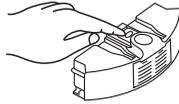

Figure 3
2. Press the orange button on it, and then the blower will pop up automatically. (Refer to Figure 3)